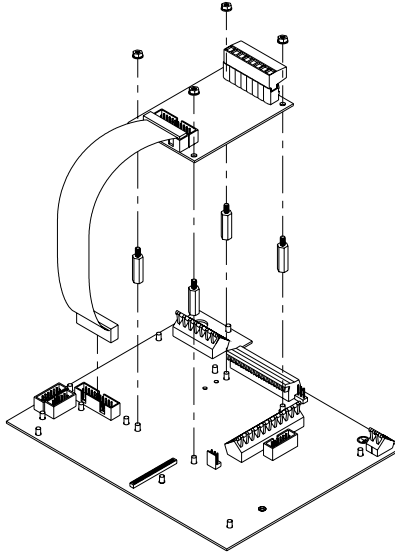

Figure 10-3: 660 Series Internal SBM Installation
1. Install the four M3 Male-Female aluminum standoffs on the 4 short studs protruding through the main board using a 6mm socket or wrench. See Figure 10-3.